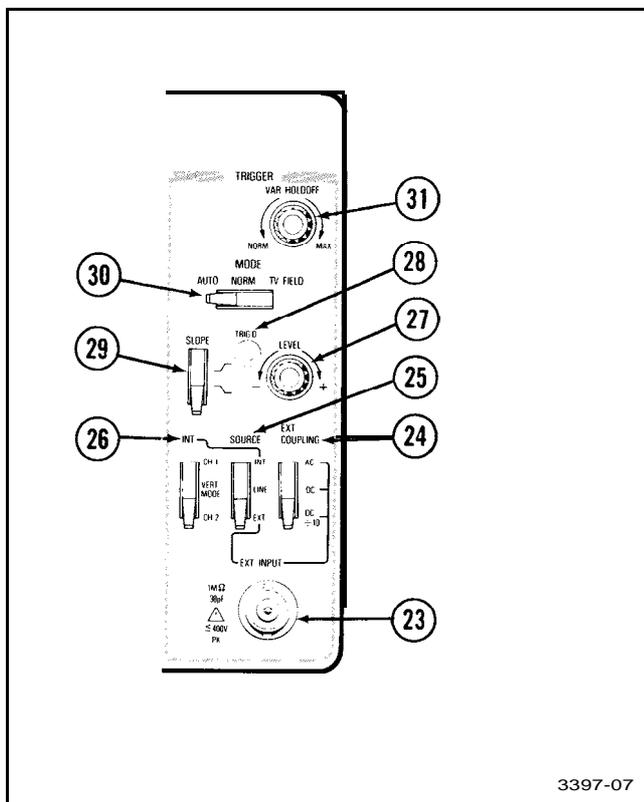

Figure 6. Trigger controls, connector, and indicator.
Refer to Figure 6 for locations of items 23 through 30.
- ⑦ **EXT INPUT Connector**-Provides a means of introducing external signals into the trigger generator.
- ⑧ **EXT COUPLING Switch**-Determines the method used to couple external signals to the Trigger circuit.